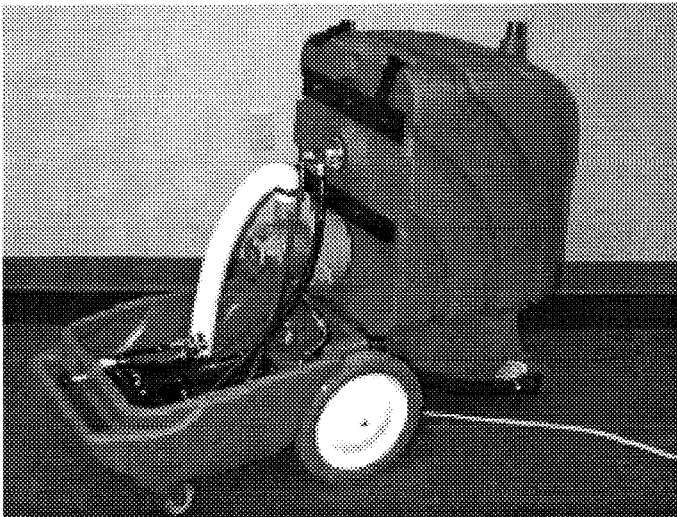

Fig. 10
- c. Lift tank upward, away from chassis. (Figure 10)